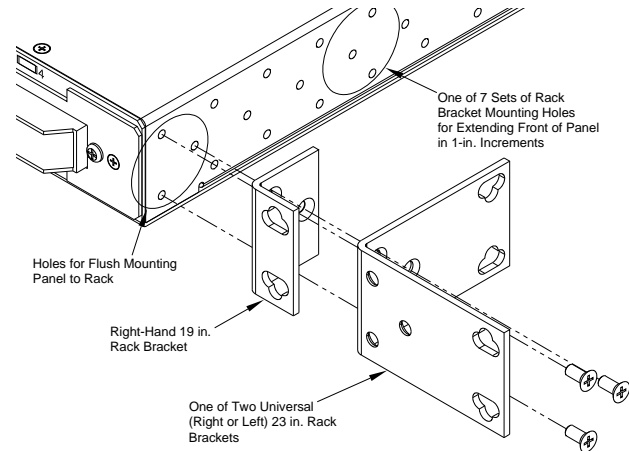

Figure 4 - Bracket Orientation
3. If necessary, to move or replace the 19-in. brackets, remove 3 screws on sides of breaker panel, as shown in Figure 4.